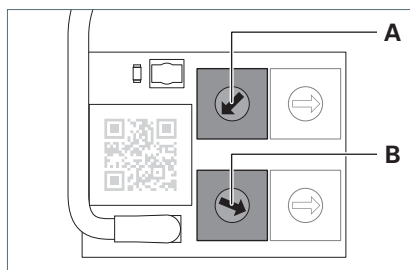

Fig. 6: Two rotary coding switches for area assignment.
- To set the first digit from the right of the two-digit hexadecimal area address, set the rotary encoding switch **A** to the desired value, see Fig. 6.